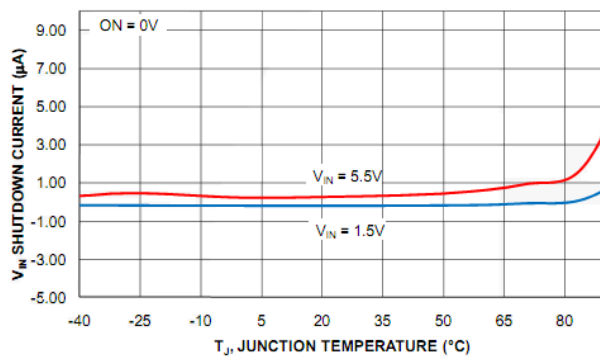

Figure 3. Shutdown Current vs Temperature
- $t_{DON}/t_{DOFF}/t_R/t_F$ are defined in Figure 3.